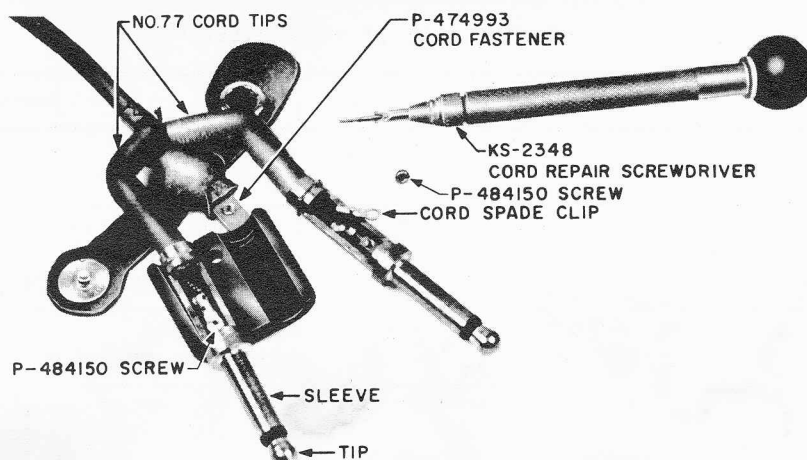
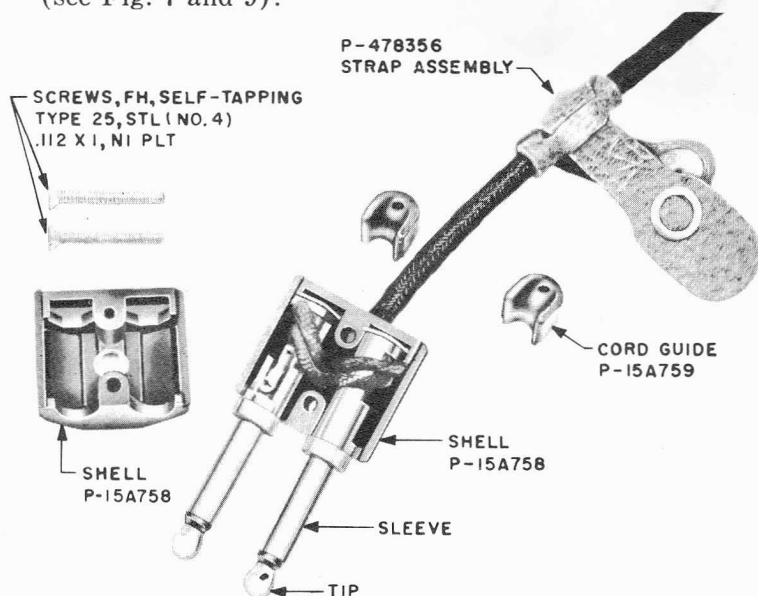

Fig. 3 - Terminating Cord at 289B Plug
Fig. 7 - 396A Plug - Internal View
3.02 The new 52H and 52J headtelsets are equipped with an L4BL cord and 396A plug (see Fig. 7 and 8). The braided covering of the cord extends into the body of the plug, eliminating need for No. 77 cord tips (see Fig. 3). The operator must grasp the plug to remove it from the jack.
6.03 Replace a worn or missing No. 77 cord tip (rubber sleeve) or strap assembly. If strap assembly is fastened around the cord, relocate it around the S hook of the cord at the plug end. (See Fig. 3.)
9.01 To detect poor contacts between the tips of the 396A or 289B plug and the springs of the jack, insert the plug in the jack, apply talking battery, and tap the plug while listening for clicks (see Fig. 7 and 9).
9.02 If a cutout is caused by wear on one side of the tips, rotate each shaft of the plug a quarter turn in the shell so as to present a new surface to the jack springs. If trouble condition is still present, replace the plug. (See Fig. 7 and 10.)